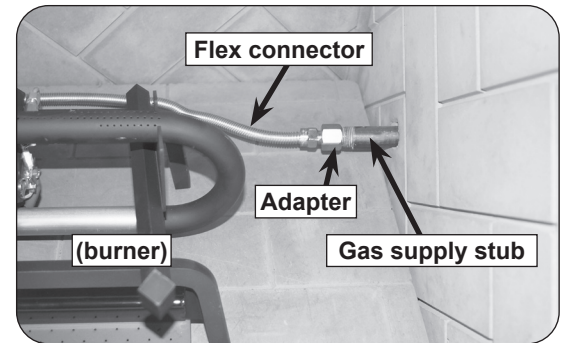

Fig. 17-1 Connect gas supply
2. Locate the gas-supply stub inside the fireplace and remove the cap, if attached (reference Fig. 17-1).
4. **Be sure gas to the fireplace is off.** Remove the adapter connected to the flex connector (pre-installed on the burner system). Attach the adapter to the gas-supply stub using a pipe compound resistant to all gasses. Tighten securely. Then attach the open end of the flex connector to the adapter. Tighten securely. (See Fig. 17-1.)